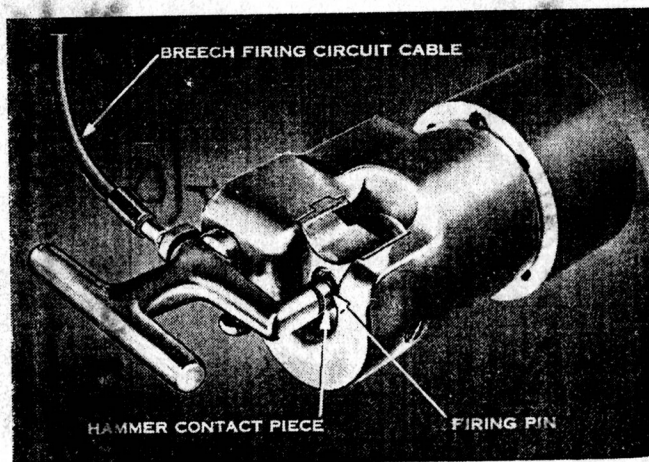

FIGURE 9.—Firing lock closed, ready for electrical firing.
■ 33. FIRING MECHANISM.—*a.* The firing mechanism is a Navy firing lock, Mark VIII, Modification II (fig. 9).
(3) Screw on the obturator spindle nut until the rear end of the nut is flush with the shoulder in the rear of the spindle thread. Aline the keyway in the nut with the keyway in the spindle and then give the nut one more complete turn. The proper amount of compression of the obturator spindle spring is obtained with the nut in this position. Insert the spindle nut key.
(4) If the obturator gives indication of being loose after long use, the obturator nut should be tightened one additional turn.
■ 45. FIRING MECHANISM.—*a. General.*—The firing mechanism (fig. 9) is designed for use with combination electric and percussion primers. The firing lock is intended to be fired electrically but may be fired by percussion if the electric circuit fails. The hammer contact piece is insulated and serves both to conduct current to the primer when the gun is to be fired electrically, and to strike the firing pin when the gun is to be fired by percussion. The primer is supported in its seat in the spindle by the firing lock wedge which closes behind it.